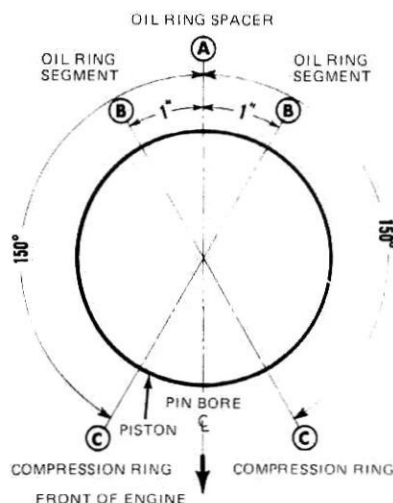
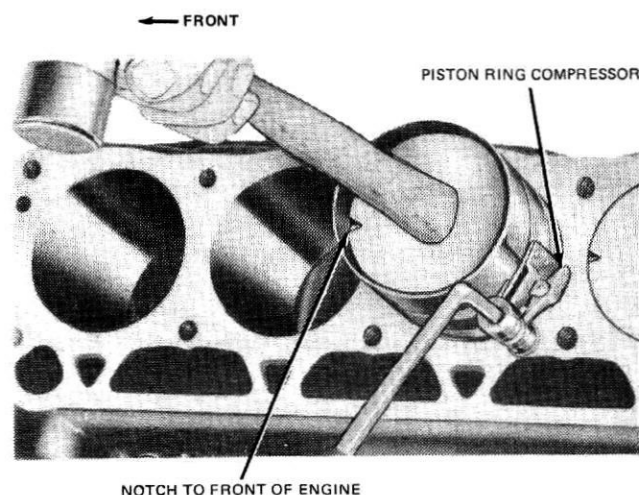

FIG. 27 Piston Ring Gap Spacing
FIG. 28 Piston Installation
4. Make sure the ring gaps are properly spaced around the circumference of the piston (Fig. 27). Install a piston ring compressor on the piston and push the piston in with a hammer handle until it is slightly below the top of the cylinder (Fig. 28). Be sure to guide the connecting rods to avoid damaging the crankshaft journals. **Install the piston with the notch in the dome of the piston toward the front of the engine (Fig. 30).**